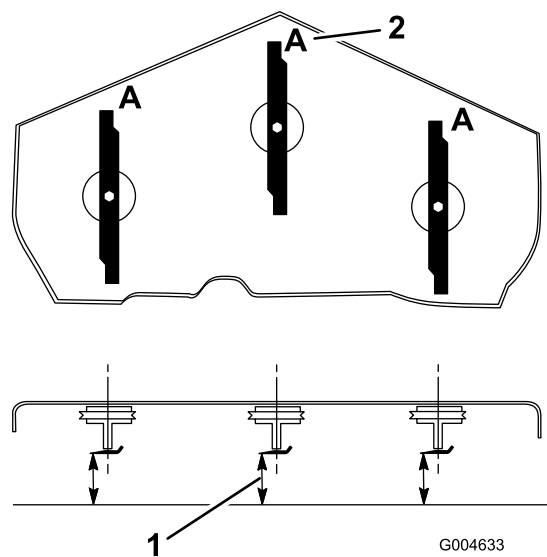

Figure 22
3. Rotate the blades until the ends face forward and backward (Figure 22). Measure from a level surface to the cutting edge, position A, of the blades (Figure 22). Note this dimension.